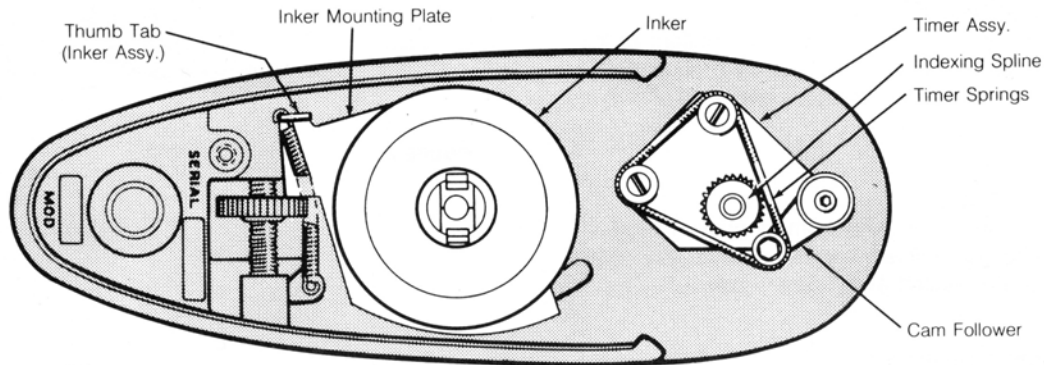

FIGURE 5 TOP VIEW
The indexing spline located on the timer (Fig. 5) provides a means for positioning an imprint on the case without having to move the type in the marking wheel. Print location is adjusted by loosening the knob on top of the marking wheel, raising the wheel slightly, and indexing one tooth at a time until a satisfactory location is reached. Each increment moves the print location approximately 1/4".
Unless otherwise ordered, all coders are furnished with timer springs and cam followers. To convert to continuous or random printing, remove timer springs and cam follower (Fig. 5).
- b) With coder cover off- use thumb tab on inker mounting plate to retract inker (See Fig. 5).